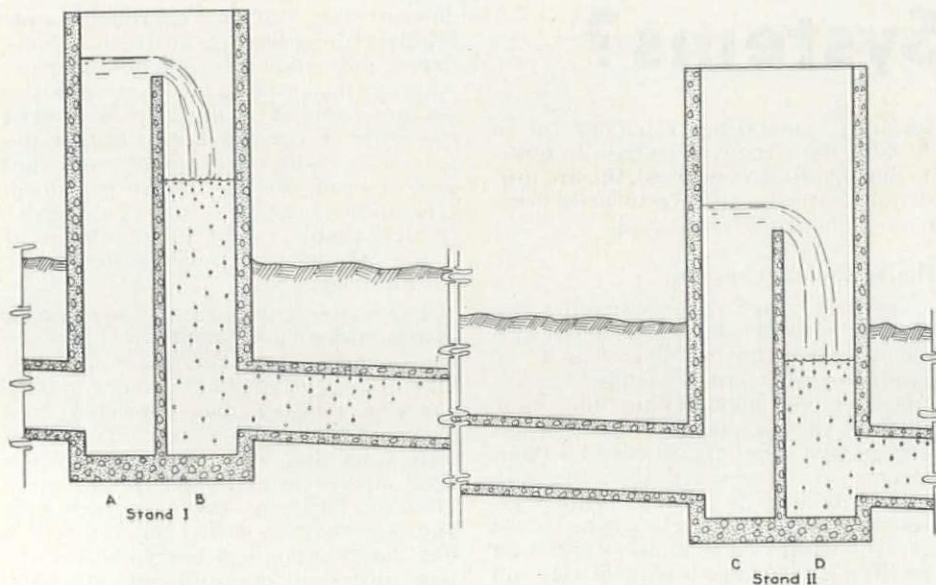

FIGURE 4—Elevation of a portion of an open system illustrating how surges are created.
1. Air is entrained in the water flowing over the baffle of Stand I of Fig. 4. It is carried thence into the pipe line. With a given velocity the grade of the pipe line is too flat for the air to collect at the top of the pipe and to flow back to the stand. Therefore, any air coming to the top is re-entrained, and carried on.¹ After possibly half a minute or less, the upper portion of a given reach (Fig. 4, B and adjacent pipe line) is so much a mixed flow of air and water that the specific gravity is effectively lowered, causing a reversal of hydraulic gradient and flow from Stand II toward Stand I. (The level in B then comes way up, and air clears from the water. The level in B drops and gradient returns to normal.) In the different places this phenomenon was observed a complete cycle of gradients ranged in time from 50 to 75 seconds. In no place was air observed to be carried clear through a reach between stands, but this observation is too limited to be conclusive.
To get better evidence on the nature of the fluctuation of the hydraulic gradient the writer selected a 1,418-ft. reach of pipe between stands where the difference in elevation of the baffle lips was 2.8 ft. Flow was 6.9 cfs. in the 36-in. pipe. Pressure at B (Fig. 4) was determined by dropping a limp rubber bag attached to a long length of tubing down to the bottom of the stand. The tubing was run up over the top of the stand, down to some distance below ground surface, and up again. Thus it formed a manometer to measure the pressure adjacent to the pipe entrance. Since the bag was limp, expansion of it would cause no stretching of the rubber, and it floated in a small wire cage. Pressure at C was determined simply by observing the water surface since there were no evidences of air. Simultaneous readings of pressure were made at B and C for about 3 cycles. The results are shown in Fig. 5.
2. Vents somewhat downstream from the stand (as downstream from B, Fig. 4) appeared to have no significant effect.
4. As far as observed, the amount of air carried into a pipe appeared to be inversely related to the depth of the water above the pipe (in B of Fig. 4) and the downward velocity (which in turn is related to the cross-sectional area of the downstream portion of the stand). With these observations in mind, the following are suggestions that should minimize the difficulty: